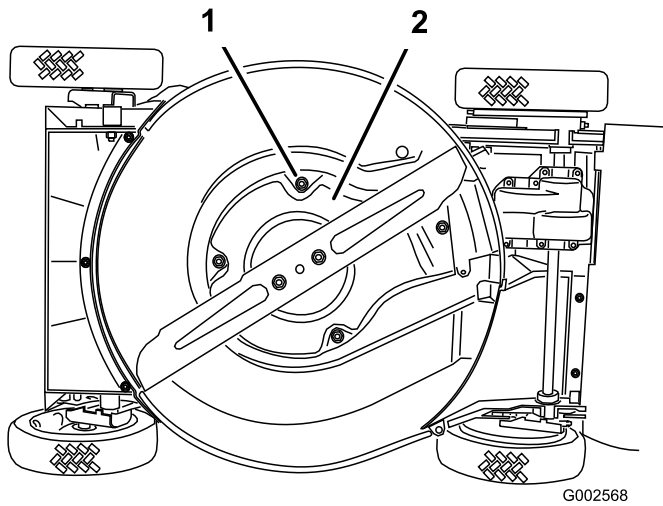

Figure 34
6. Remove the 4 screws that hold the shield in place (Figure 34)..